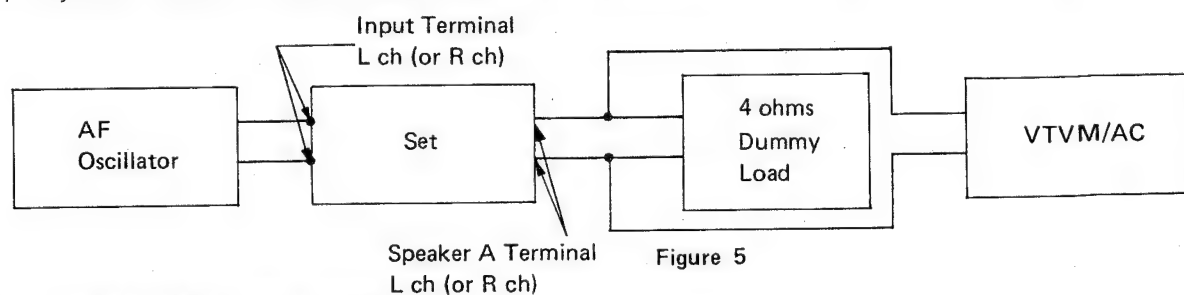

Figure 5
- (1) Connect test equipments as shown in Figure 5.
- (2) Short the input terminal with short pin plugs.
- (3) Adjust the SVR 501 (L ch), and SVR 502 (R ch) as the VTVM indicates 13.2mV DC.
- (1) Set the meter range selector of peak-power-indicator to  $\times 0.1$  (■) position.
- (2) Set the speaker selector knob to SPEAKER A position.
- (3) Connect test equipment as shown in Figure 5.
- (4) Control the output of AF oscillator as the VTVM indicates 4.47V AC.
- (5) Adjust the indication of peak-power-indicator to be 0 db(5W) with SVR701 (L ch) and SVR702 (R ch).